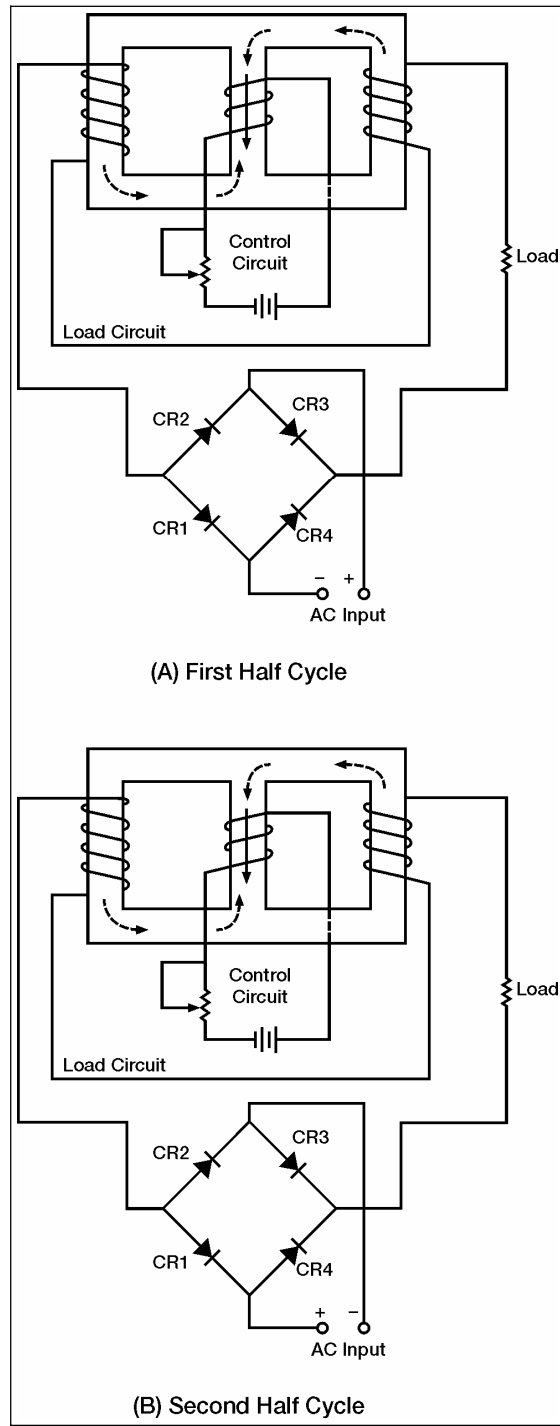

Figure 7-36. Simple Full-wave Magnetic Amplifier
7-127. Figure 7-36 shows a simple full-wave magnetic amplifier. The bridge circuit of CR1, CR2, CR3, and CR4 allows current to flow in the load circuit during the entire load voltage cycle. However, the load current is always in the same direction. This current flow in one direction prevents hysteresis loss. View (A) shows that during the first half cycle of load voltage, current flows through CR1, the load coils, and CR3. View (B) shows that during the second half cycle, load current flows through CR2, the load coils, and CR4.